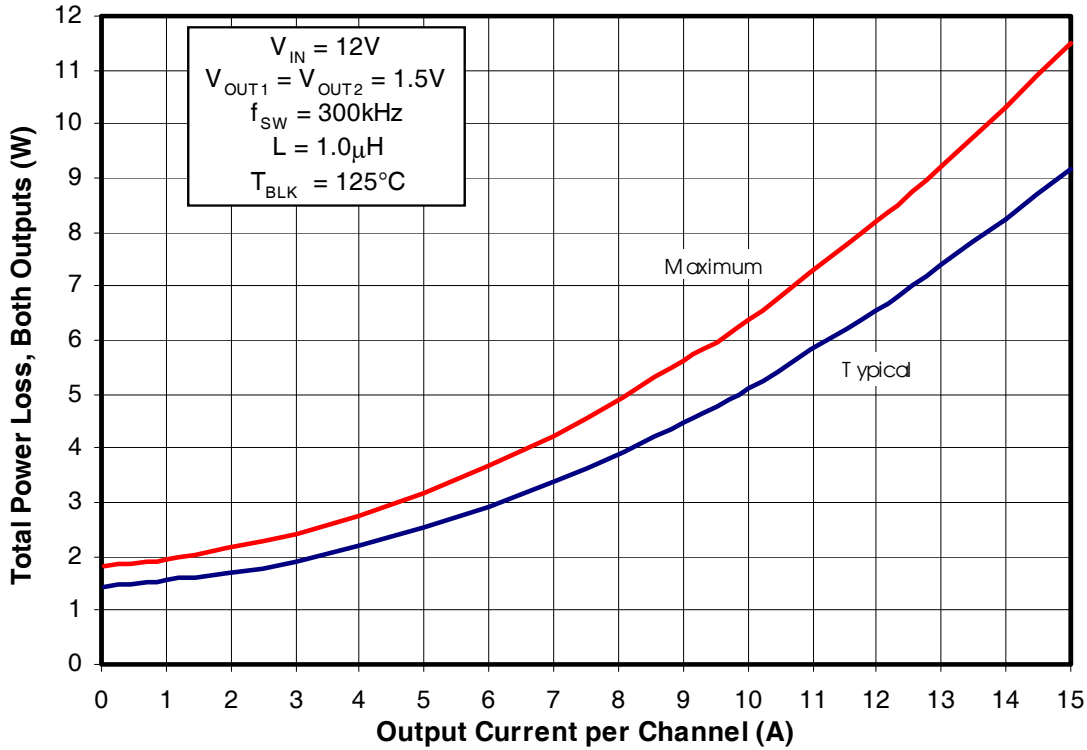
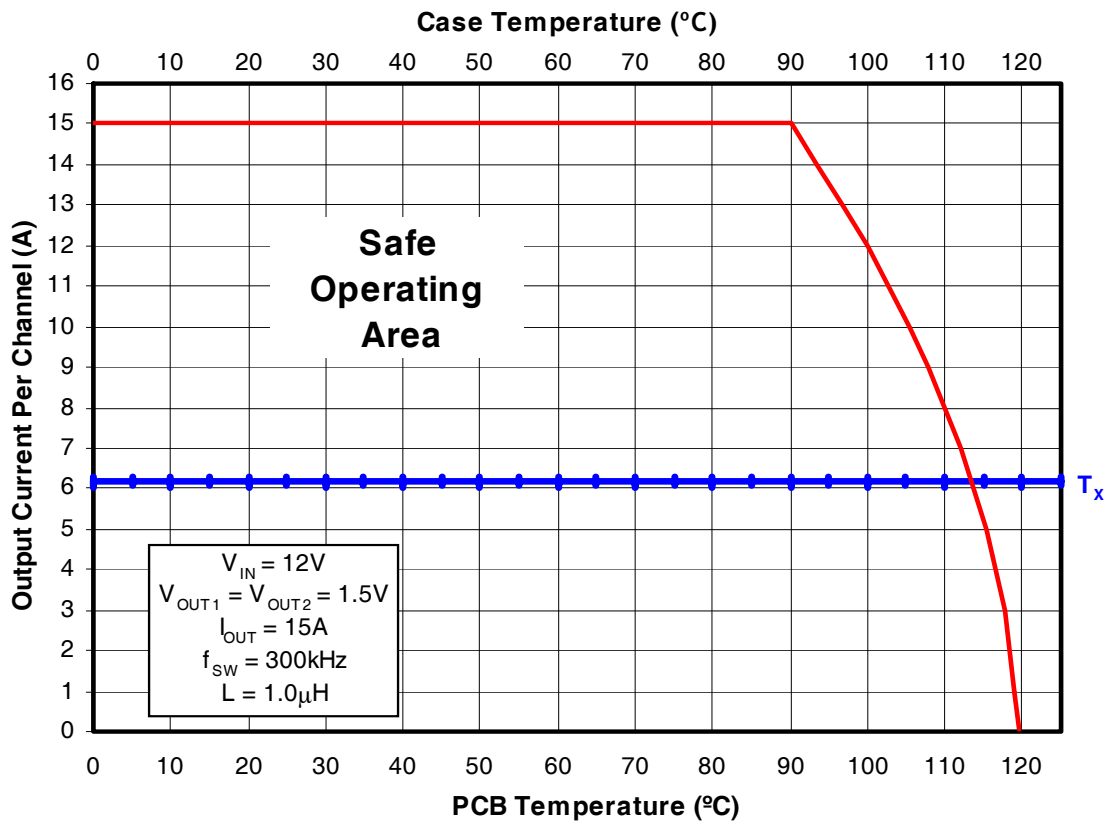
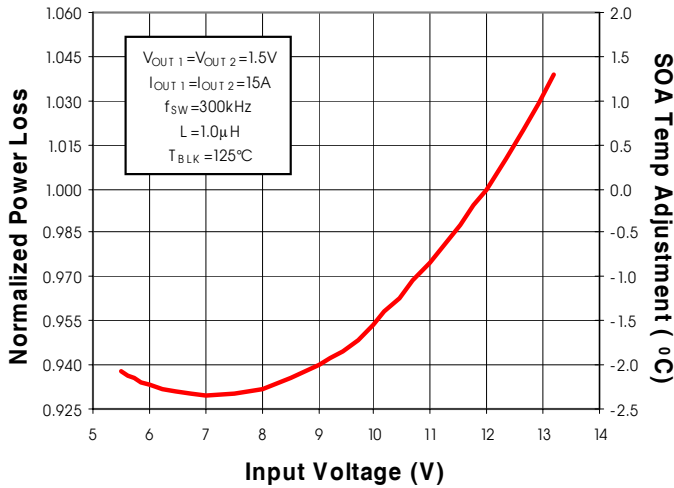

Fig. 2: Power Loss vs. Current
Fig. 3: Safe Operating Area (SOA) vs.  $T_{PCB}$  &  $T_{CASE}$
Fig. 4: Normalized Power Loss vs.  $V_{IN}$
To make adjustments to the power loss curves in Fig. 2, multiply the normalized value obtained from the curves in Figs. 4, 5, 6 or 7 by the value indicated on the power loss curve in Fig. 2. Remember that the power loss in Fig 2. is the power loss for 2 outputs operating with the same output voltage. If differing output voltages are used the initial power loss for each channel needs to be divided by 2. Then if multiple adjustments are required, multiply all of the normalized values together, then multiply that product by the value indicated on the power loss curve in Fig. 2. The resulting product is the final power loss based on all factors. See example no. 1.
To make adjustments to the SOA curve in Fig. 3, determine your maximum PCB Temp & Case Temp at the maximum operating current of each iP1202PbF. Then, add the correction temperature from the normalized curves in Figs. 4, 5, 6 or 7 to the  $T_X$  axis intercept (see procedure no. 2 above) in Fig. 3. When multiple adjustments are required, add all of the temperatures together, then add the sum to the  $T_X$  axis intercept in Fig. 3. See example no. 2.
- Output1 (Fig. 2) Maximum power loss = W 8.25/2 = 4.125W
(Fig. 4) Normalized power loss for input voltage ≈ 0.93
- Output2 (Fig. 2) Maximum power loss =  $6.4W / 2 = 3.2W$
- (Fig. 4) Normalized power loss for input voltage  $\approx 0.93$
- Output1 (Fig. 4) Normalized SOA Temperature for input voltage  $\approx -2.3^{\circ}C$
- Output2 (Fig. 4) Normalized SOA Temperature for input voltage  $\approx -2.3^{\circ}C$